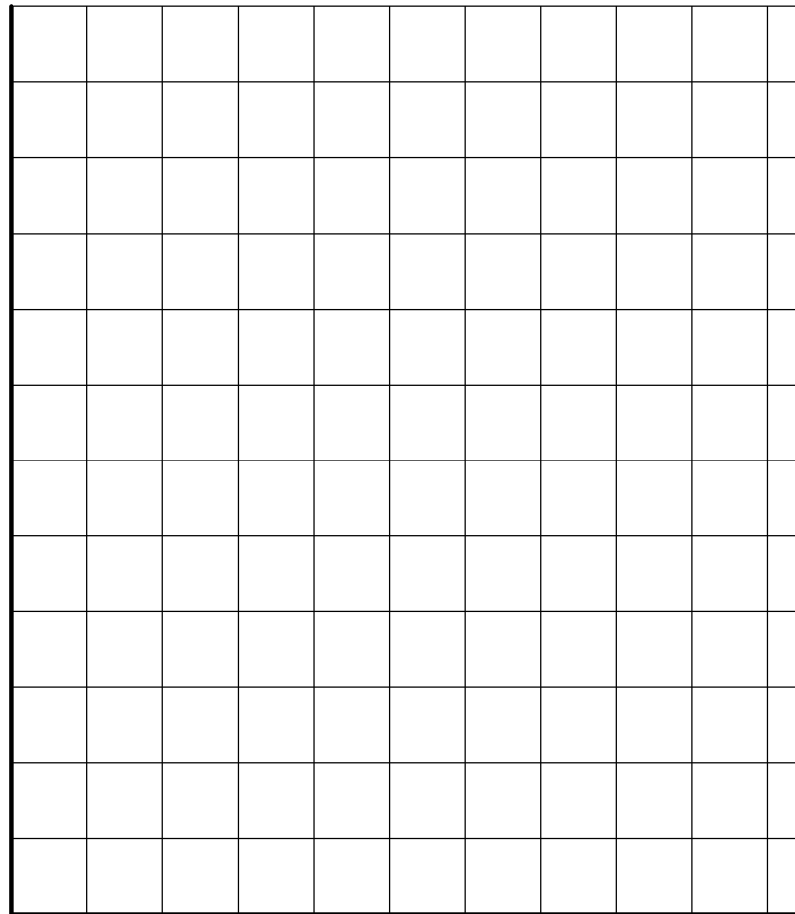

Fig. 3.10.2.4 Potentiometer characteristic
- Plot the values from the table in the chart (Fig. 3.10.2.4) and draw the characteristics  $U_1 = f(\text{scale value})$  and  $U_2 = f(\text{scale value})$ .